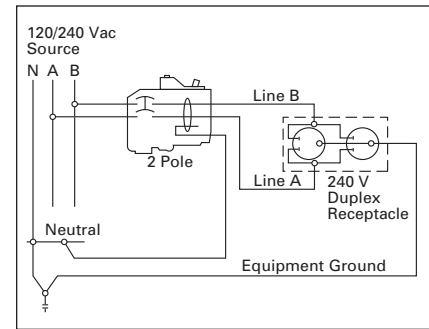

Figure 3-4. 2-Pole 240 Volt Load Application Sourced by 120/240 Vac
① Clamshell packaging available with CS modification code on the end of catalog number.
② Common trip refers to 2-pole 240 volt load application sourced by 120/240 Vac (see **Figure 3-4**).